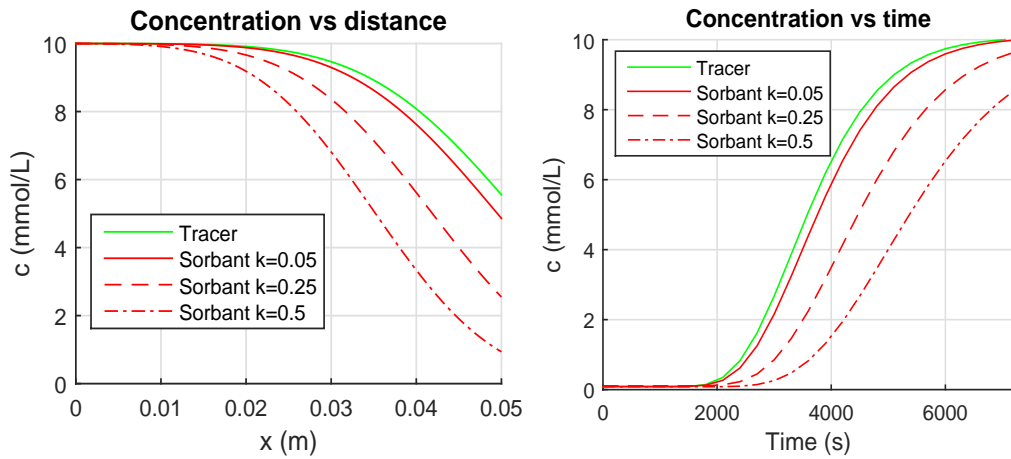

FIGURE 3. Concentration profile (left) after 1 PV (1 hr) and effluent profile during 2PV injection (left).
- See Figure 3 (left).
- See Figure 3 (right).